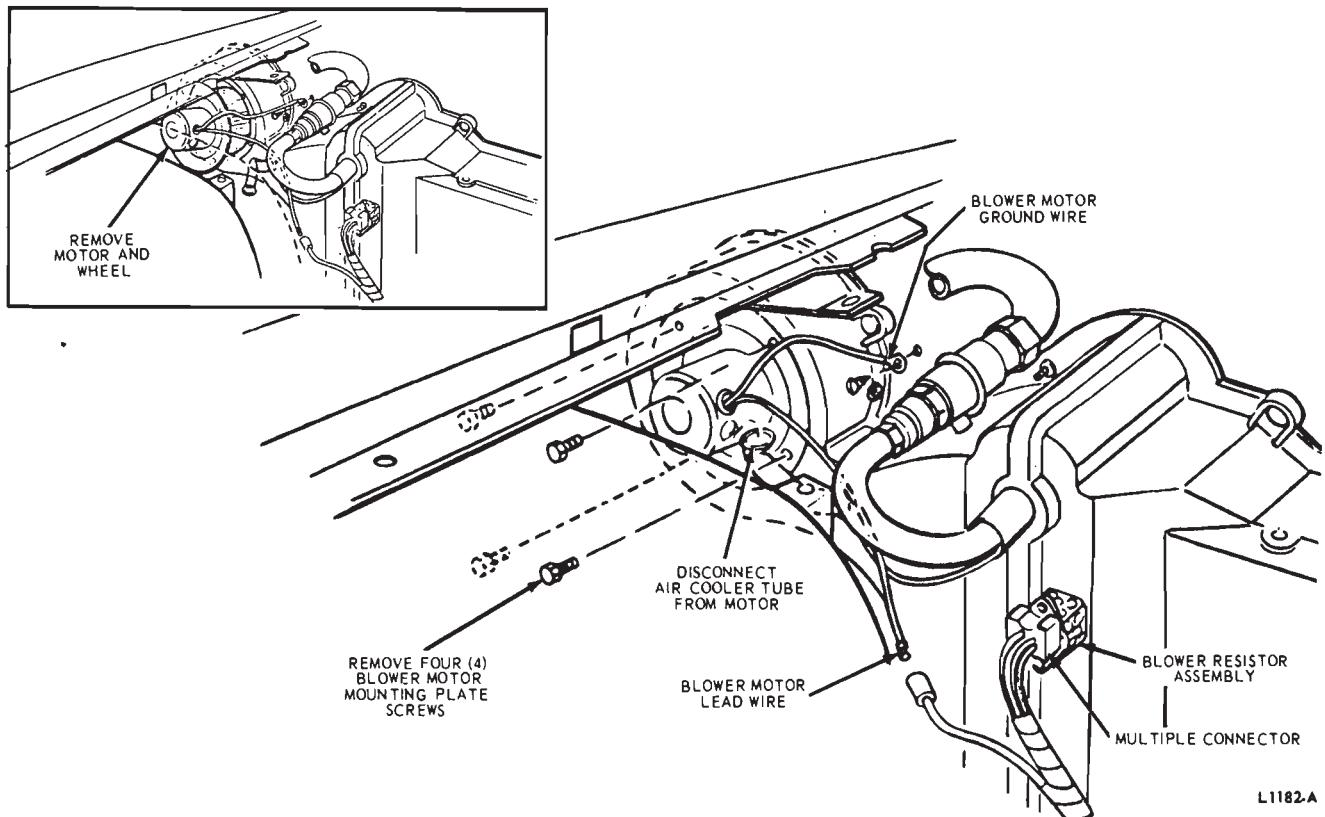

FIG. 62—Manual A/C-Heater System Blower Motor Removal—Lincoln Continental
8. Disconnect the blower motor ground wire from the dash panel and the lead wire from the harness (Fig. 62).
Refer to Standard Heating System, Removal and Installation, Group 34-03 and Fig. 62.